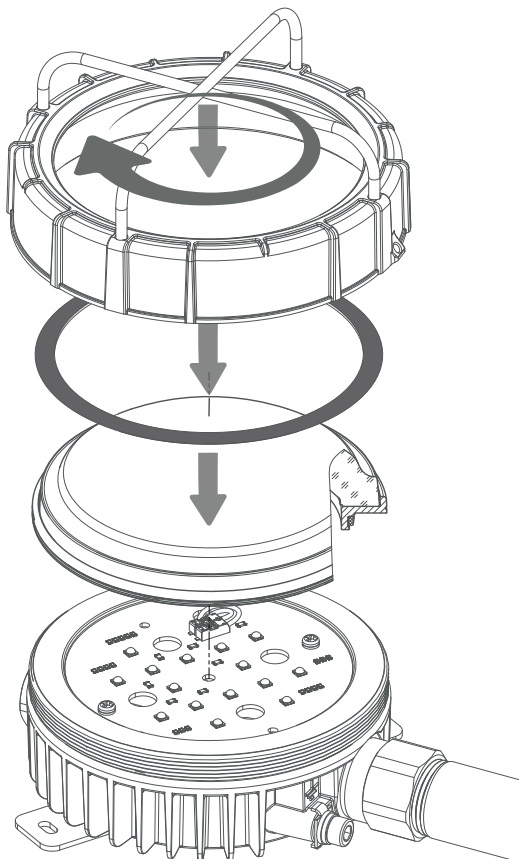
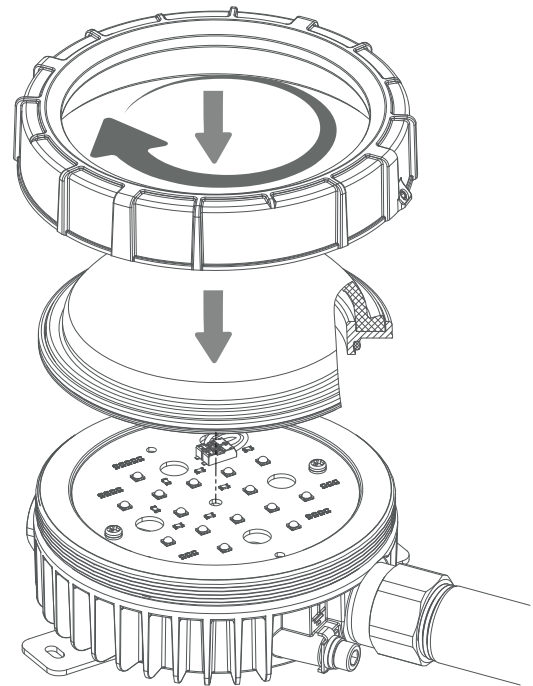

FIG. 11
FIG. 12
8. Assemble the fixture in reverse order: attach the LED board to the housing, install the lens-holding ring with the embedded diffuser, the gasket (for Plafond EX), and screw on the top housing. See Fig. 11 and Fig. 12.